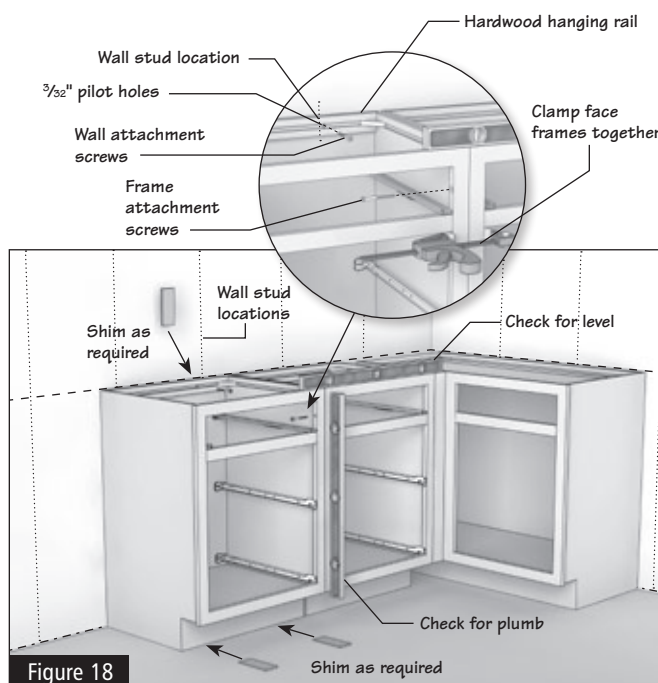

Figure 18
- 6.8** Continue this process until all cabinets are in place, making sure that each cabinet is resting at the line on the wall, level and plumb with each adjacent cabinet. Also make sure to screw cabinets to each other at the face frames before screwing to the wall. (Figure 18)